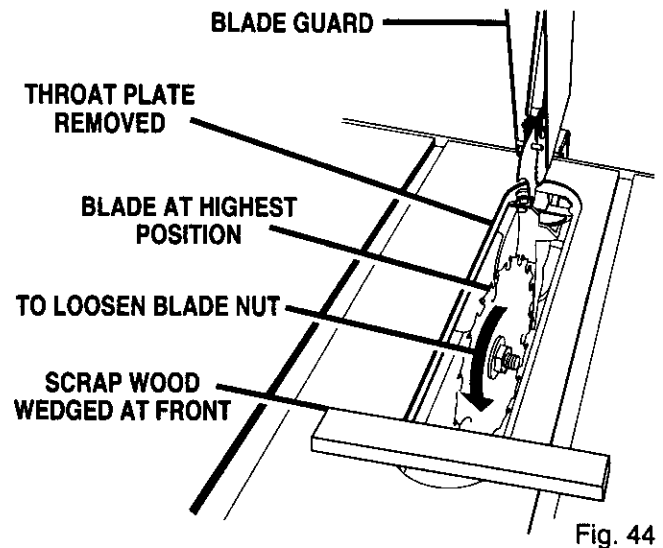

Fig. 44
See Figures 44, 45, and 46.
- Raise the blade to its highest position by turning the height handwheel clockwise. Angle the blade straight up by loosening the bevel lock handle (front of the cabinet) and turning the bevel handwheel. Wedge a piece of scrap wood against the front of the blade. See Figure 44.